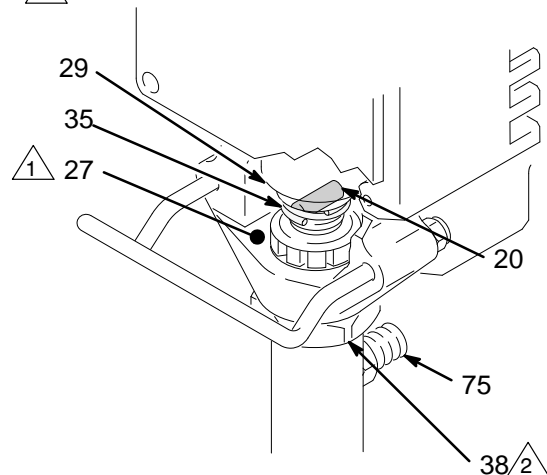

Fig. 13
9. Test brushes. Remove connecting rod pin (20). See Fig. 13, page 15. With sprayer off, turn pressure control knob fully counterclockwise to minimum pressure. Plug in sprayer. Turn sprayer on. Slowly increase pressure until motor is at full speed. Inspect brush and commutator contact area for excessive arcing. Arcs should not "trail" or circle around commutator surface.